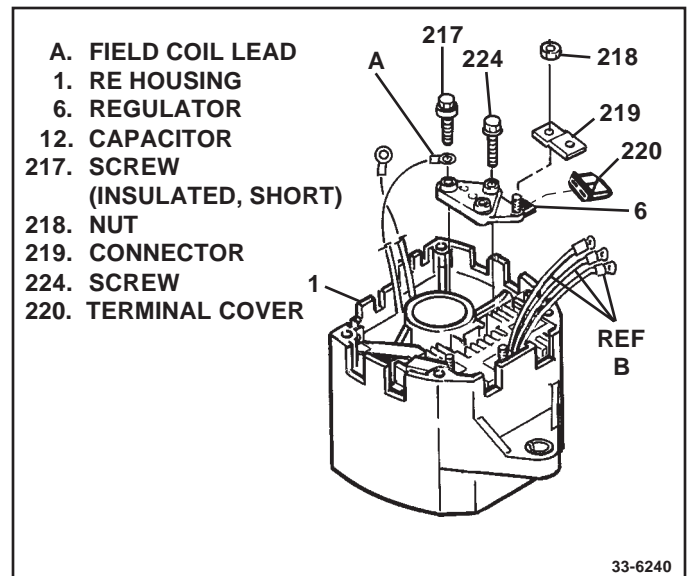

Figure 33. Installing Regulator
Regulator mounting area for presence of grease or dirt (Fig. 33). Good electrical contact is necessary in this area.
14. Regulator (6) with terminal cover (220) assembled to RE housing (1) with regulator attaching screw (224) (grounding). (See Fig. 33) Finger tighten.
15. One field coil lead terminal (A) over regulator (6) mounting hole closest to terminal. (Ensure leads do not touch edge of frame hole.)
16. Insulated screw (217) through lead terminal (A) and regulator (6) into rectifier end housing (1). Finger tighten.